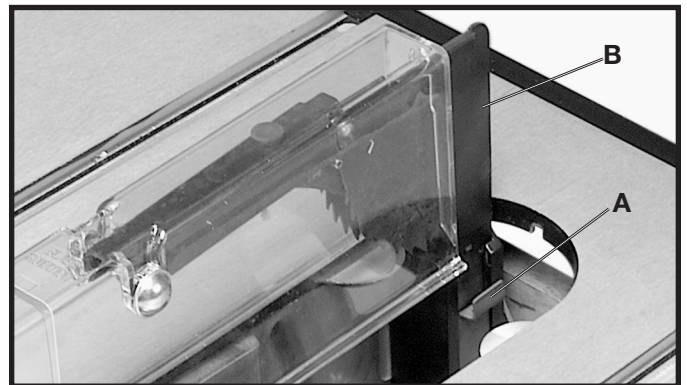

Fig. 45
3. Remove the blade guard and spreader assembly. **NOTE: THE BLADE MUST BE IN THE 90 DEGREE POSITION TO THE TABLE FOR THE BLADE GUARD AND SPREADER ASSEMBLY TO BE REMOVED.** Remove the table insert, pull out on the spreader release spring (A) Fig. 45, while pulling up on the blade guard/spreader assembly (B).